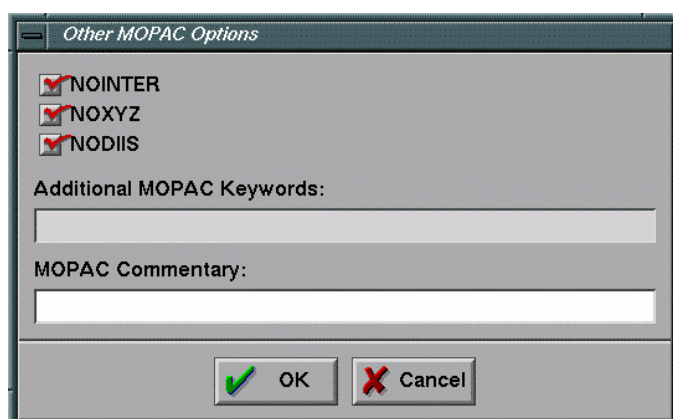
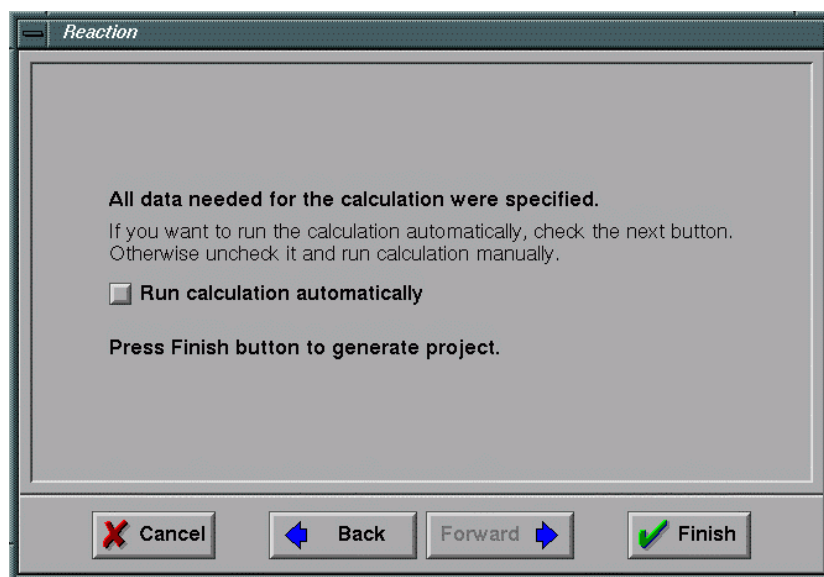

Fig 13.17 Window for additional information
Fig 13.18 Window for finalizing of reaction wizard
- 13) Input additional information consisting commentary or additional keywords for MOPAC (**Fig 13.17**). This input is optional.
- 14) Finalize the reaction project (-**Fig 13.18**). All parameters necessary for calculation were entered and the user can either start the calculation on current computer or generate the input files, move them to another computer and run the calculation there. Press the *Finish* button to complete the wizard.
calculation time up to 10^8 seconds. Check the KEYWORDS: **GEO-OK**, **MMOK**, **PRECISE**, **NOINTER**, **NOXYZ** and **NODIIS** (*Fig 13.17*).
- Input optional commentary and finish the reaction wizard (*Fig 13.17* and *Fig 13.18*). If you are working on the machine on which you want to perform the calculations and you have MOPAC and DRIVER properly configured, let the calculation run automatically. If you want to run the calculation on different machine, copy the whole directory EXAMPLE2 onto this machine. Note that MOPAC and DRIVER must be installed there too! Then start the calculation by executing the *run.sh &*.
- Input optional commentary and finish the reaction wizard (**Fig 13.17** and **Fig 13.18**). If you are working on the machine on which you want to perform the calculations and you have MOPAC/DRIVER properly configured, let the calculation run automatically. If you want to run the calculation on a different machine, copy the whole directory **EXAMPLE3** onto this machine. Note that MOPAC and DRIVER must be installed there too! Then start the calculation just by typing the **run.sh &**.